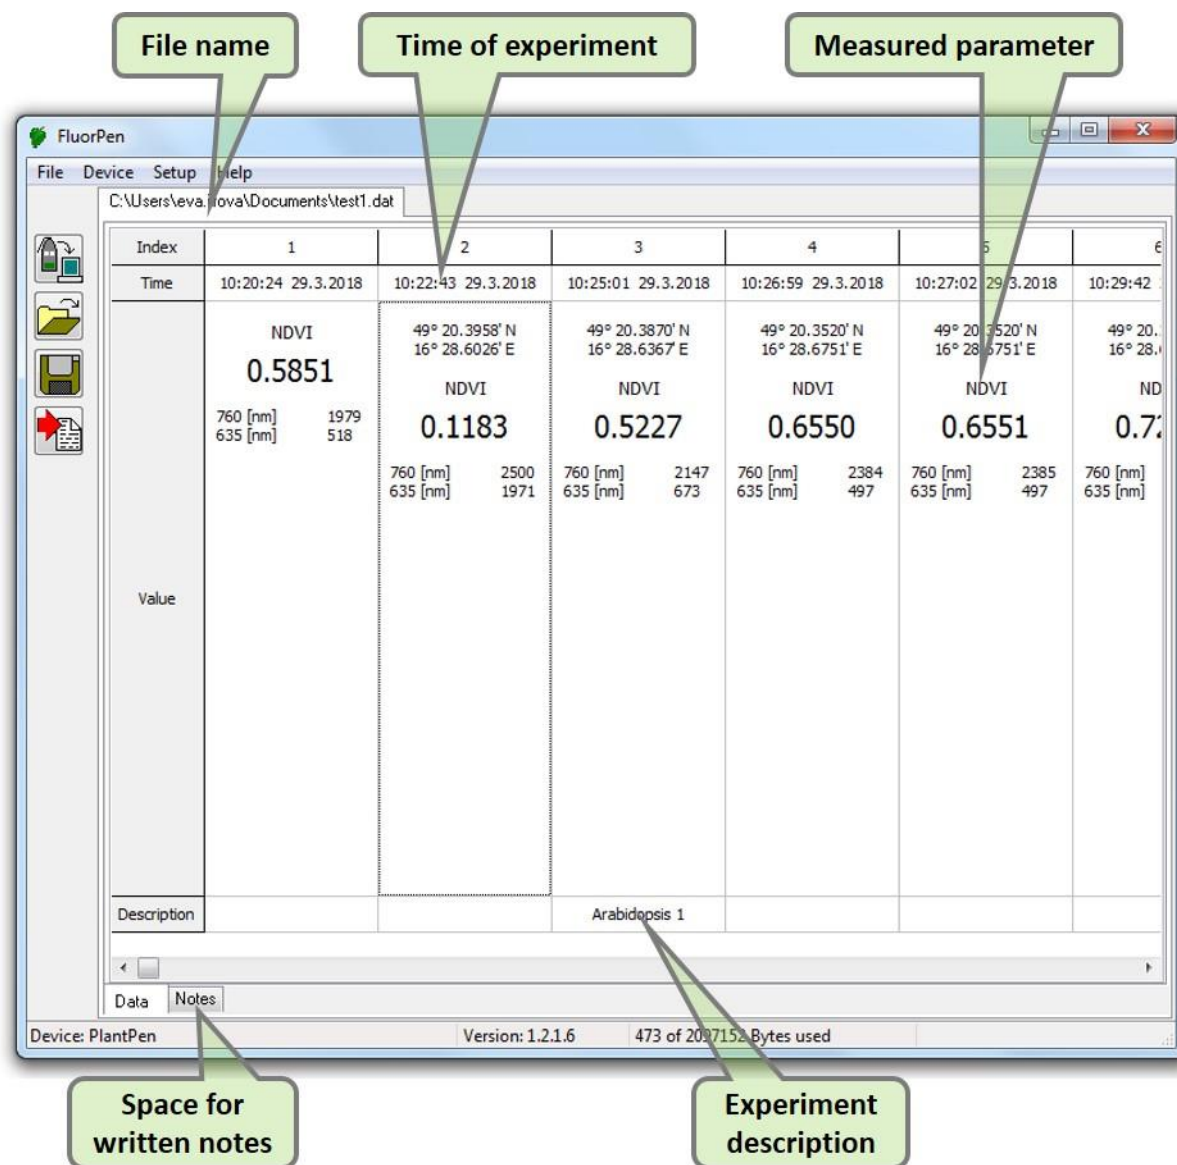

Fig. 13 Example of Data Transfer and Visualization.
1. Perform a measurement with your PlantPen. In Fig. 13 we did an NDVI measurement.